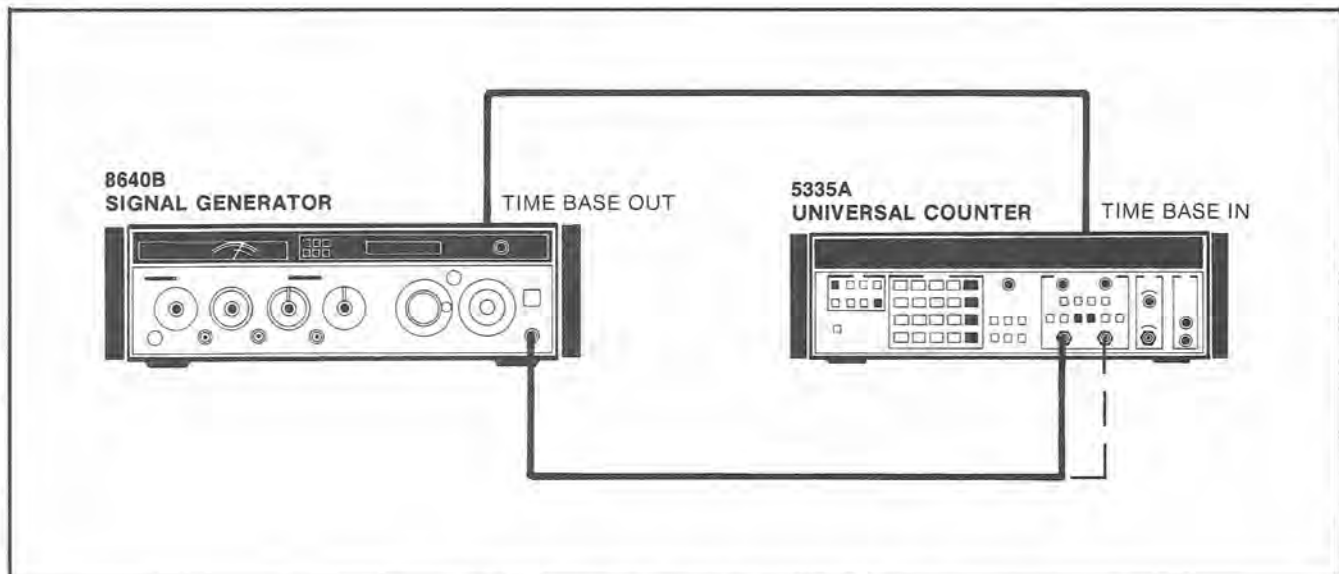

Figure 5-5. Level Shifter Adjustment Set-Up
b. Connect the 8640B Signal Generator, RF OUTPUT to 5335A INPUT A, and the 8640B TIME BASE OUT to 5335A TIME BASE IN as shown in Figure 5-5.
- 1 MΩ/50Ω 50Ω (IN)